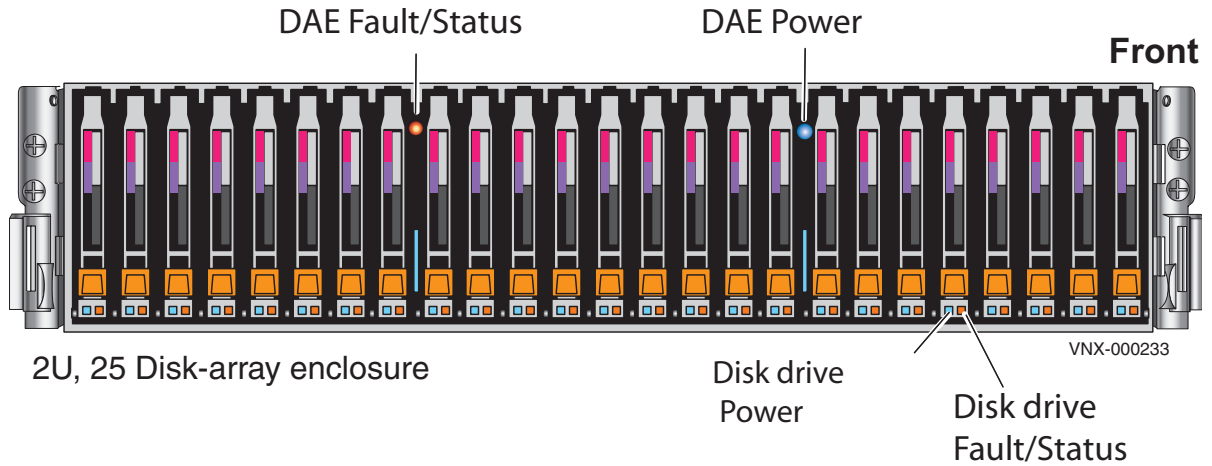

Figure 23 2U, 25 2.5" drive DAE LEDs
1. Verify that the status of the 2U DAE Power LED located on the front is solid blue and the DAE Fault/Status is off as shown in Figure 23.